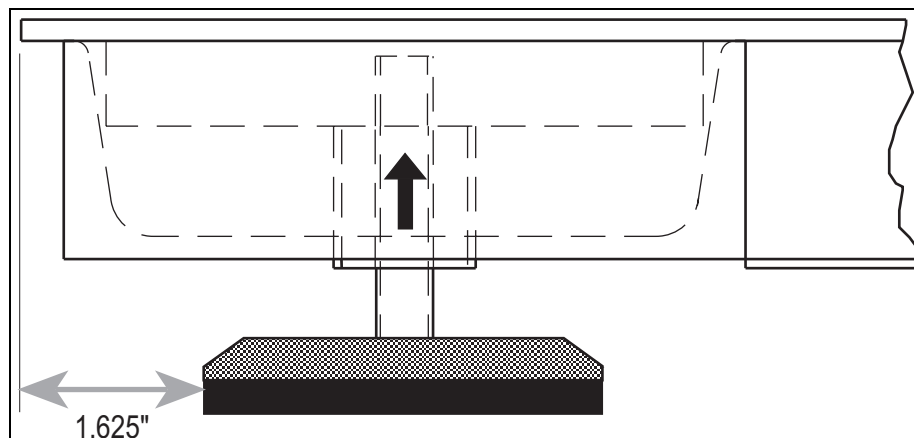

Figure 4-3. Foot Pad - Side View
**Note** If base is used with a pit frame or access ramp, position load cell to maintain the dimension shown in Figure 4-3.